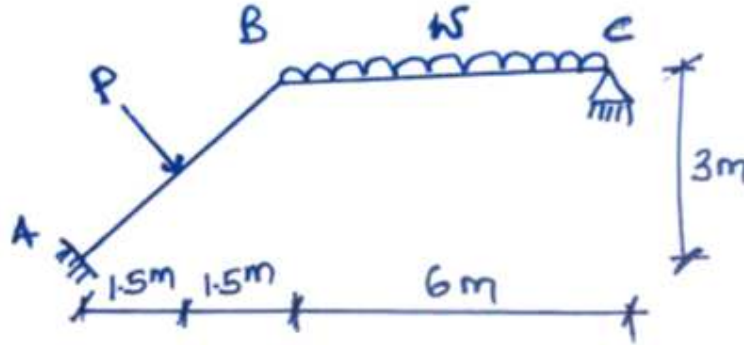

Fig. 2
2. In Fig 2., member AB is loaded with a point load of magnitude P and has stiffness EI_1 . Member BC has a uniformly distributed load of magnitude w and has stiffness EI_2 . Transforming the stiffness matrix for member AB, demonstrate from first principles how the global member stiffness matrix can be assembled from local member matrices AB and BC. Derive an expression for the global stiffness matrix for the structure. (20 marks)
3. Refer to Fig 2., if $P=50 \text{ kN}$, $\omega = 30 \text{ kN/m}$ and $E=200\text{kN/mm}^2$. Member section $AB=$ Member section $BC= 40\text{cm}$ by 40 cm .